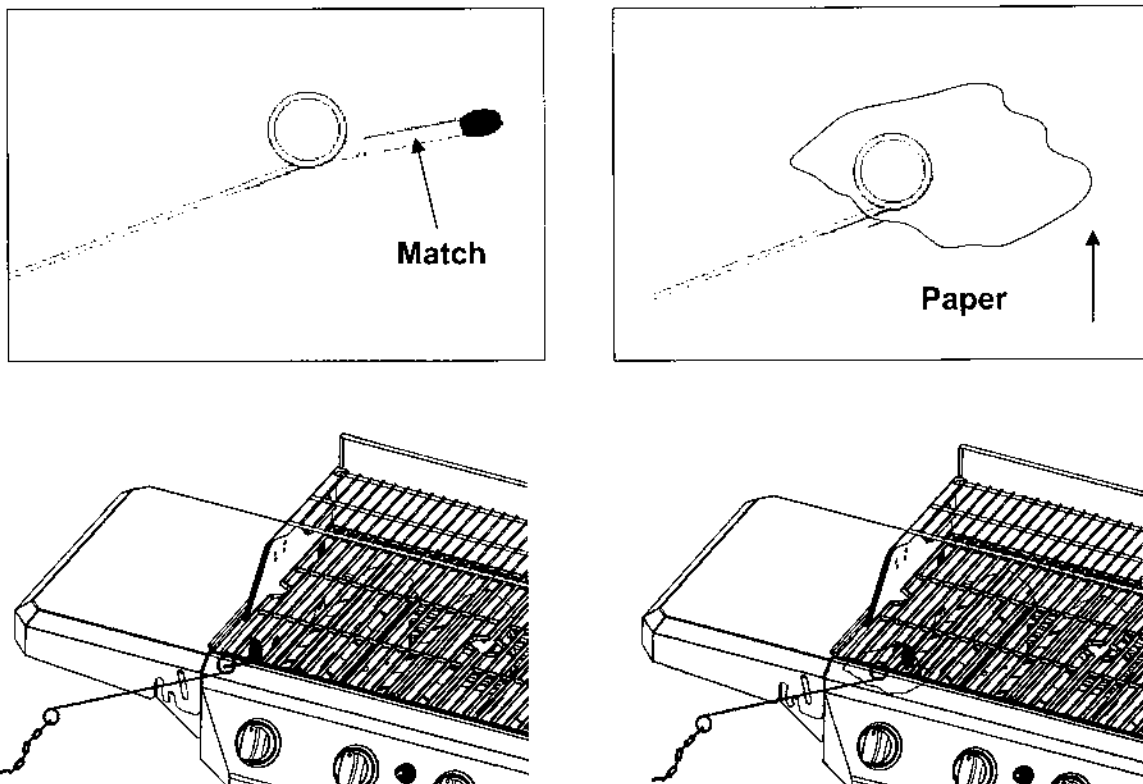

Fig. 28 Match/Paper Lighting Illustration
4. Attach either the match or paper to the clip (Fig. 28), light the match and insert it close to the ports of the burner, and push and turn the depressed knob to the left to "MAX" position.